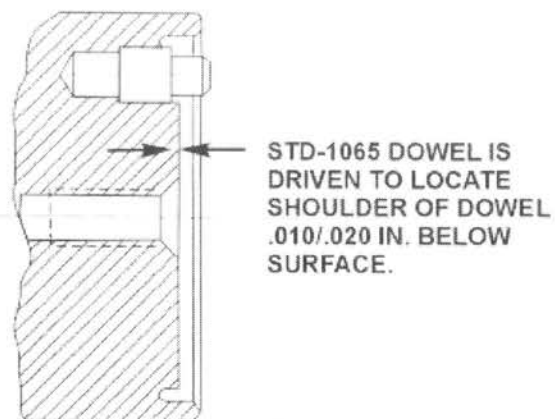

Figure 2. Section Thru End of Crankshaft Showing Driven Height of STD-1065 Dowel
2. Check the condition of the dowel in the end of the crankshaft. It should be perfectly smooth with no indication of nicks or deformation. If it is out of round, it should be removed and replaced with a new one. Replacement instructions are in paragraph 4. If dowel condition is acceptable, insure that it is installed as shown in Figure 2 or 3.
5. Install a new dowel in the crankshaft as shown in Figures 2 and 3. Insure that the correct dowel is installed.